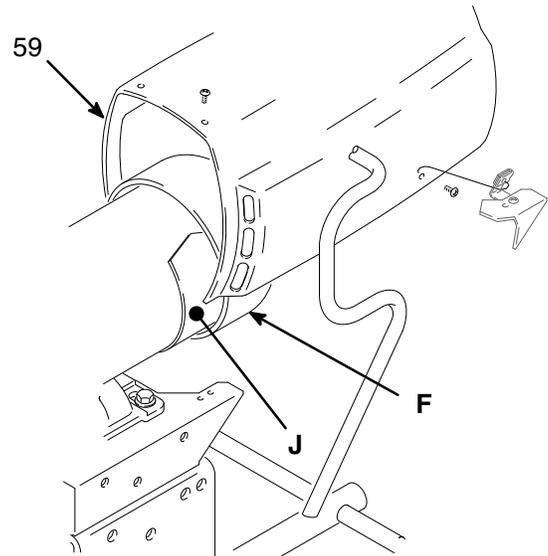

Fig. 10
Remove the motor shield (59), the fan cover (F) and the inspection covers (J). See Fig. 10.